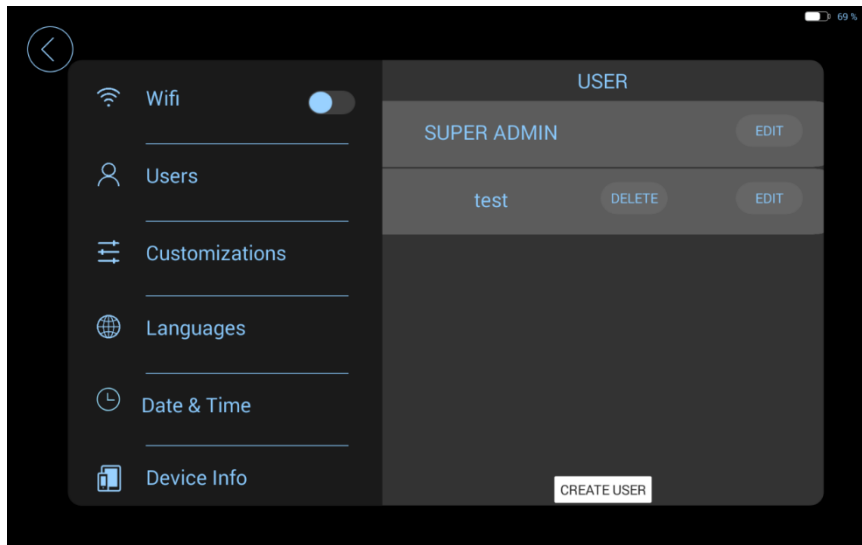

Figure 15. Multi-user Management Interface
15. Click user to enter the multi-user management interface, providing the function of creating new users and modifying users (Figure 15). The super admin can modify the creation and deletion. Other users can only view the user list but cannot create new users, cannot modify the username and password and cannot delete the user. The super admin can modify the super user information but cannot delete himself. The standard official scheme for each user is the same, but the self-modified official program and the respective collection of programs and the number of times the device is used are independent of each other.